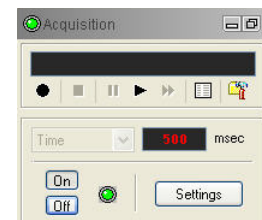

Figure 3-2 Acquisition panel
5. In the **Acquisition** panel (Figure 3-2) select the sampling mode (depth or time). Click on **Settings** and specify the corresponding sampling rate. Switch on the sampling (click the **ON** button).
6. Press the **Record** button in the **Acquisition** panel (Figure 3-2), specify a file name and start the logging.